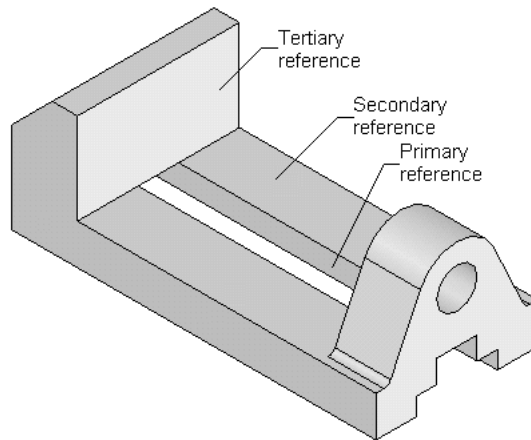

Figure 12-56 Faces to be selected as mate references
- Open the Vice Body and Vice Jaw part documents and define the mate references in both part documents, refer to Figures 12-56 and 12-57
4. Select the planar face of the model shown in Figure 12-56 as the primary reference. The selected planar face is highlighted in green.
6. Select the planar face of the model shown in Figure 12-56 of the model as the secondary reference. The selected face is highlighted in magenta.
8. Select the planar face of the model shown in Figure 12-56 as the tertiary reference. The selected face is highlighted in blue.